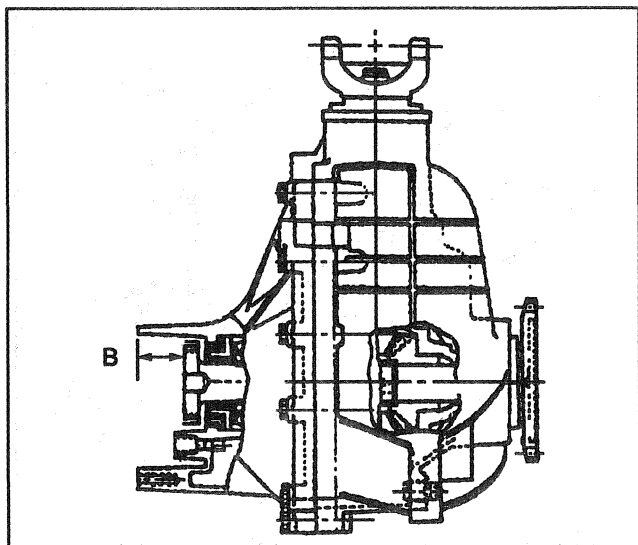

Figure 46—Measuring to Calculate Shim Size—Carrier Case
3. Measure dimension "B." (Figures 46 and 48)